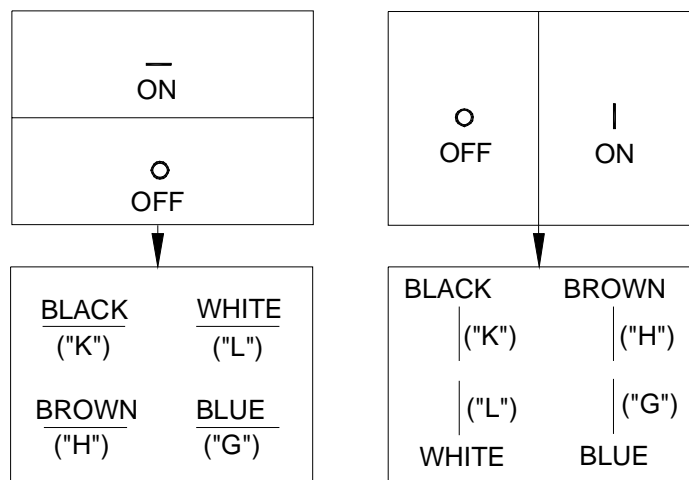

FIGURE 33 - WIRING THE SWITCH
30. **If your game had a PC power supply:** Reconnect the switch using the harness included in the new power supply frame. The connector on the blue wire (labeled G) should connect to tab 1. The white wire (L) should be connected to tab 2. The brown wire (H) should be connected to tab 3. The black wire (K) should be connected to tab 4. See Figure 33. If required, an SB0447-01 is included in the kit and can provide additional DC connections. Reconnect the ground wire.